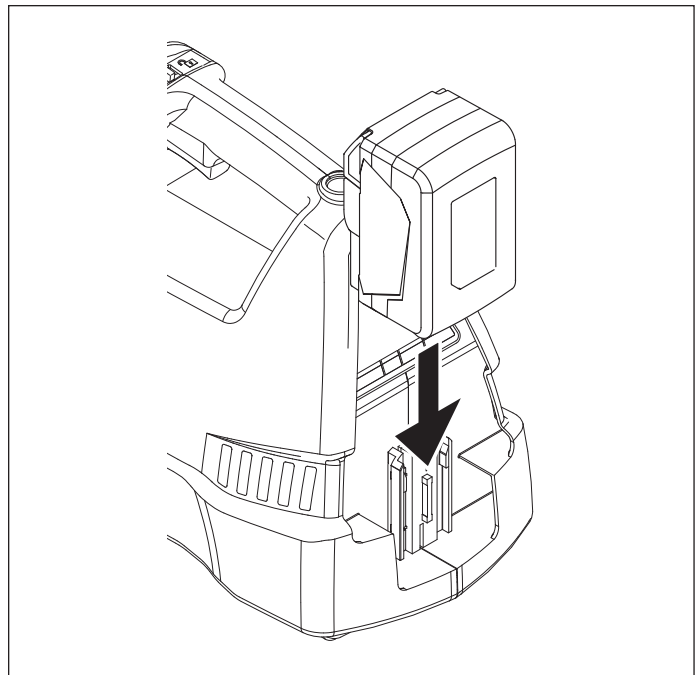

Figure 3, Battery Installation
1. Slide the battery down onto the battery dock at the rear of the pump. See Figure 3.